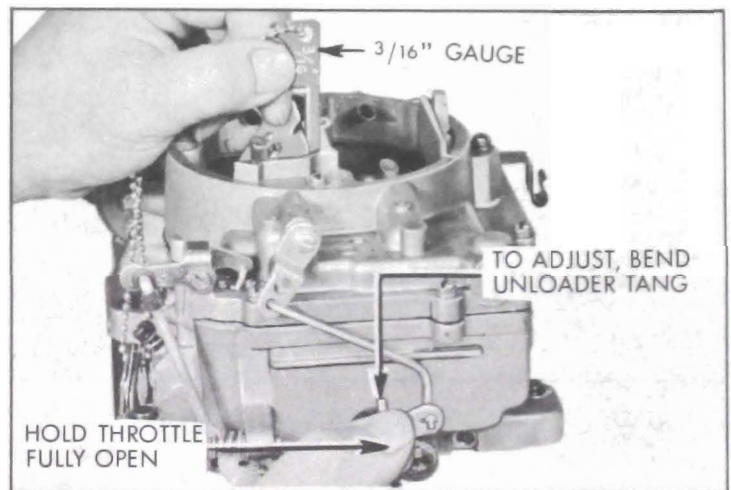

Figure 3-56—Unloader Adjustment
22. *Adjust Unloader.* Hold throttle wide open and check clearance between upper edge of choke valve and inner wall of air horn using a $\frac{3}{16}$ " drill. Bend unloader tang on throttle shaft lever as required to obtain this clearance using pliers. See figure 3-56.